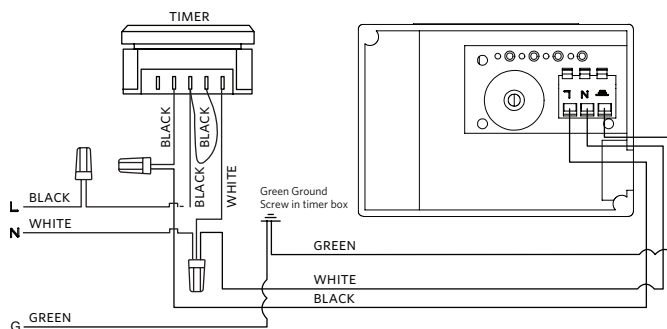

FIG. 2 Astro 2 Series circulator and 24-Hour Timer wiring diagram
- Unfasten the mounting 2 screws (4) and remove the terminal box cover (3).
- Connect power supply wires (black, white and green) to the timer unit and to the circulator terminals (as shown in **FIG. 2**).